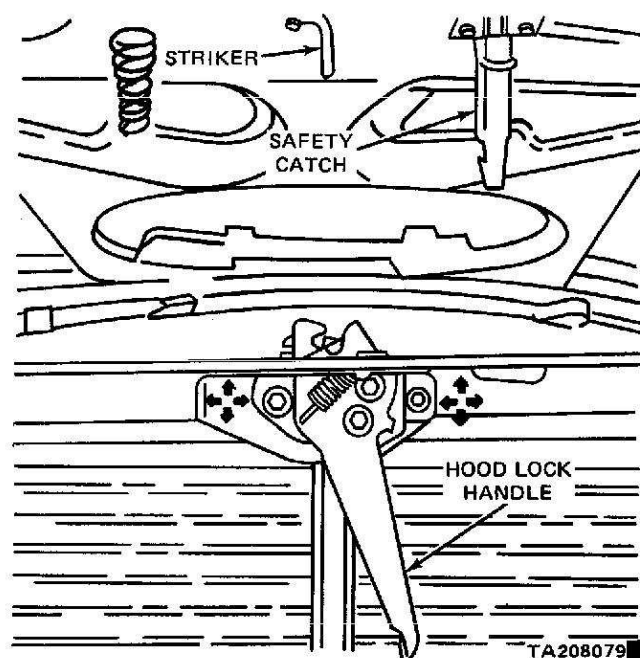

Figure 2-97. Hood Lock Striker Adjustment.
- (1) Loosen both hinge mounting bolts at the hood mounting.
- (2) Loosen the hood lock from the grille support.
- (3) Close the hood and then move it until you have about 3/16-inch clearance between the back of the hood and the cowl.
- (4) Raise the hood to approximately 30 degrees. Tighten the hinge-to-hood mounting bolts.
- (5) Tighten the lock and lower the hood. Check alignment with the fenders.
- (6) Make sure the hood latches securely. If it doesn't, readjust the hood lock until it does (figure 2-97).